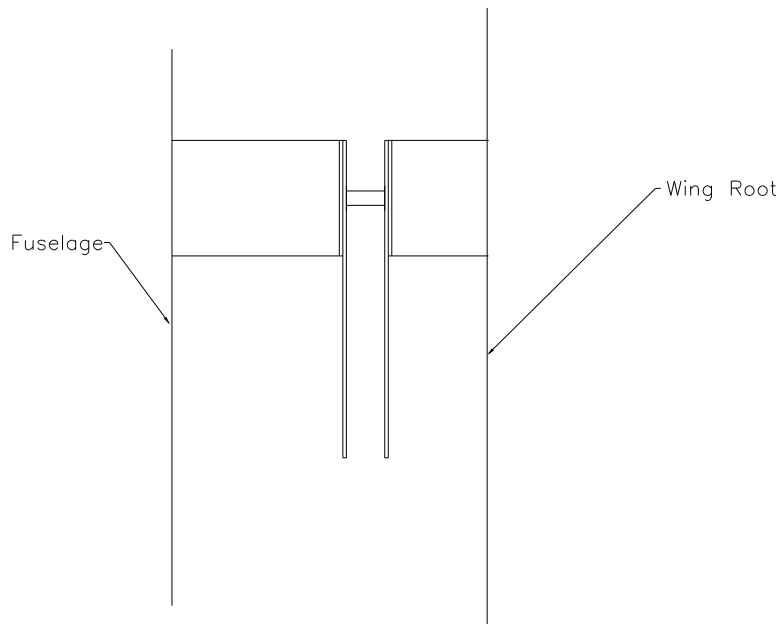

Figure 20.6.6
- 15) Attach the wings. Ensure the bolt in the fuselage torque tube slides into the end plug of the wing torque tube. Figure 20.6.6.